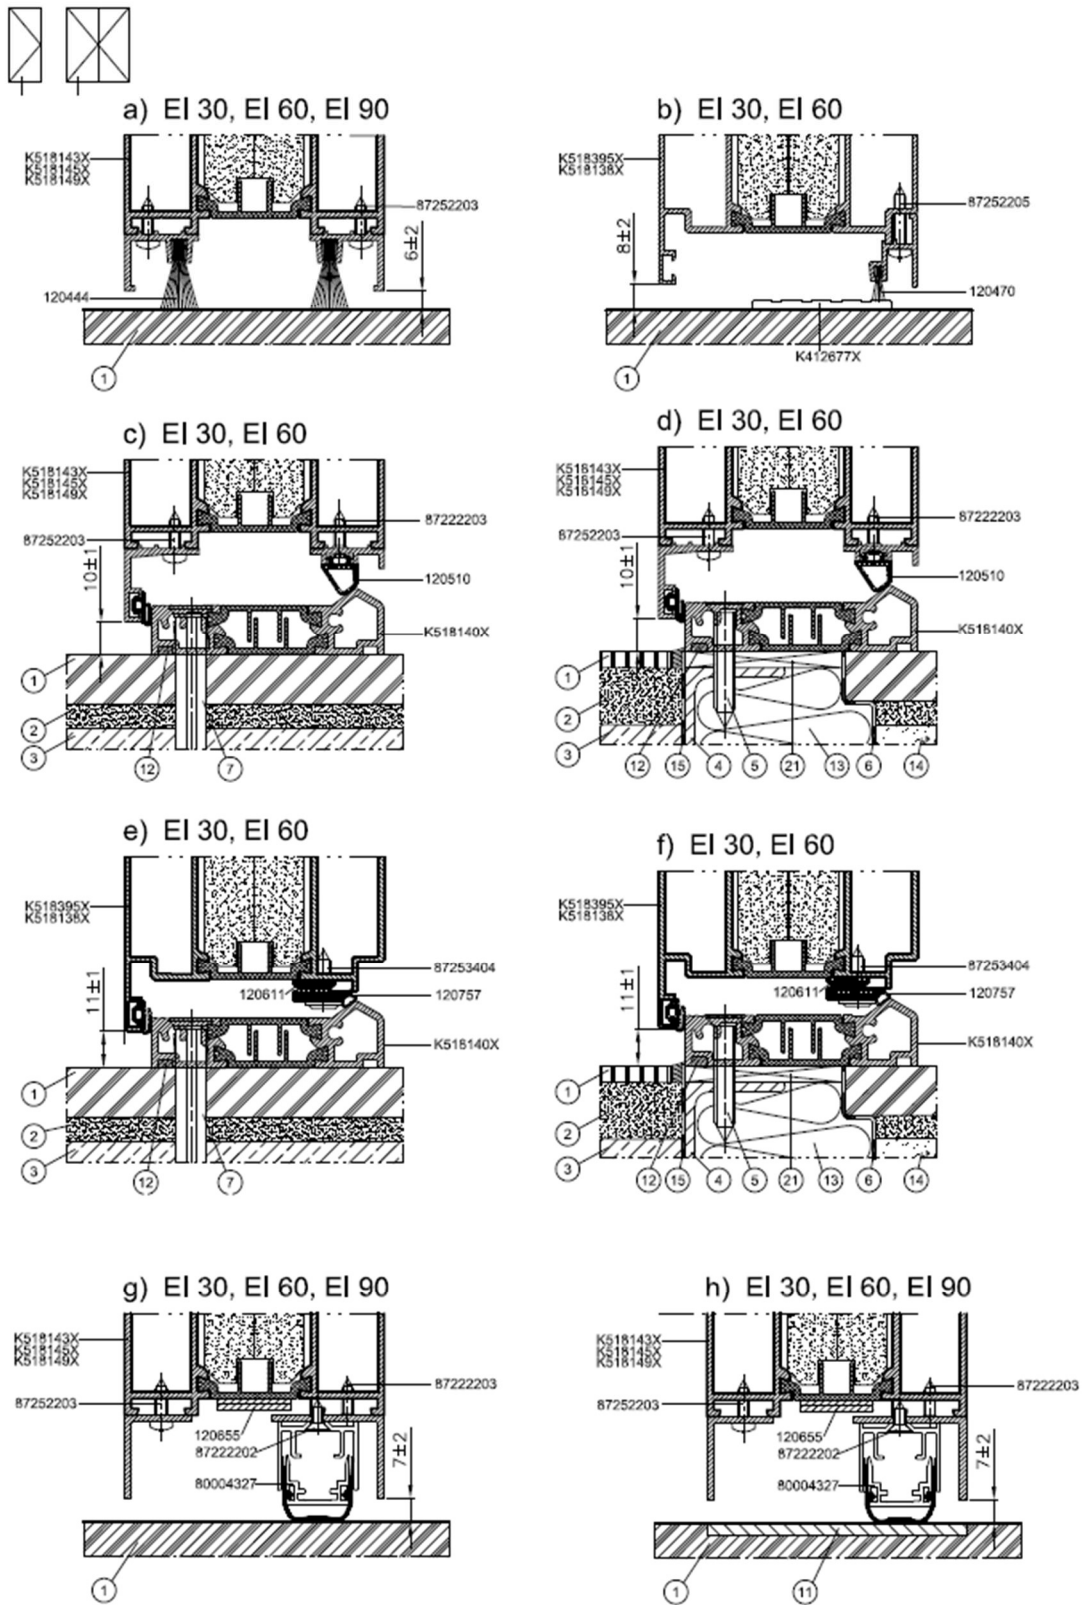

Fig. 27 Variants of door stop sealing – clearance between floor and leaf (applies to all fire resistance classes)
Below, Fig. 27 shows the permissible clearance between the leaf and the floor for different variants of door stop sealing
- 0 mm – according to Fig. 27 b – when the profile is fixed to the floor by means of steel concrete screws,
The size of clearance between floor surface and door leaf depends on how the lower door stop is profiled in the case of doors with or without threshold – clearances in doors are shown in Fig. 27.